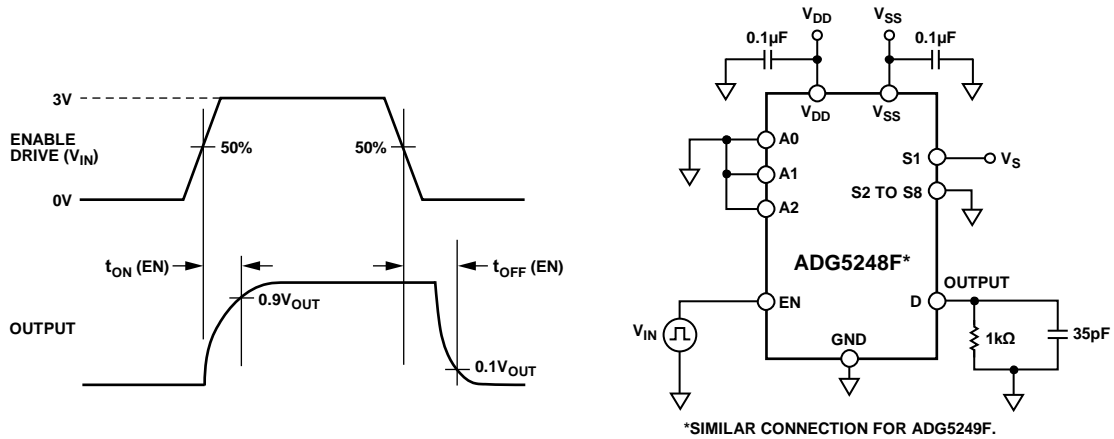

Figure 49. Enable Delay,  $t_{ON}(EN)$ ,  $t_{OFF}(EN)$
$t_{ON}$  (EN) represents the delay between applying the digital control input and the output switching on (see Figure 49).
$t_{OFF}$  (EN) represents the delay between applying the digital control input and the output switching off (see Figure 49).